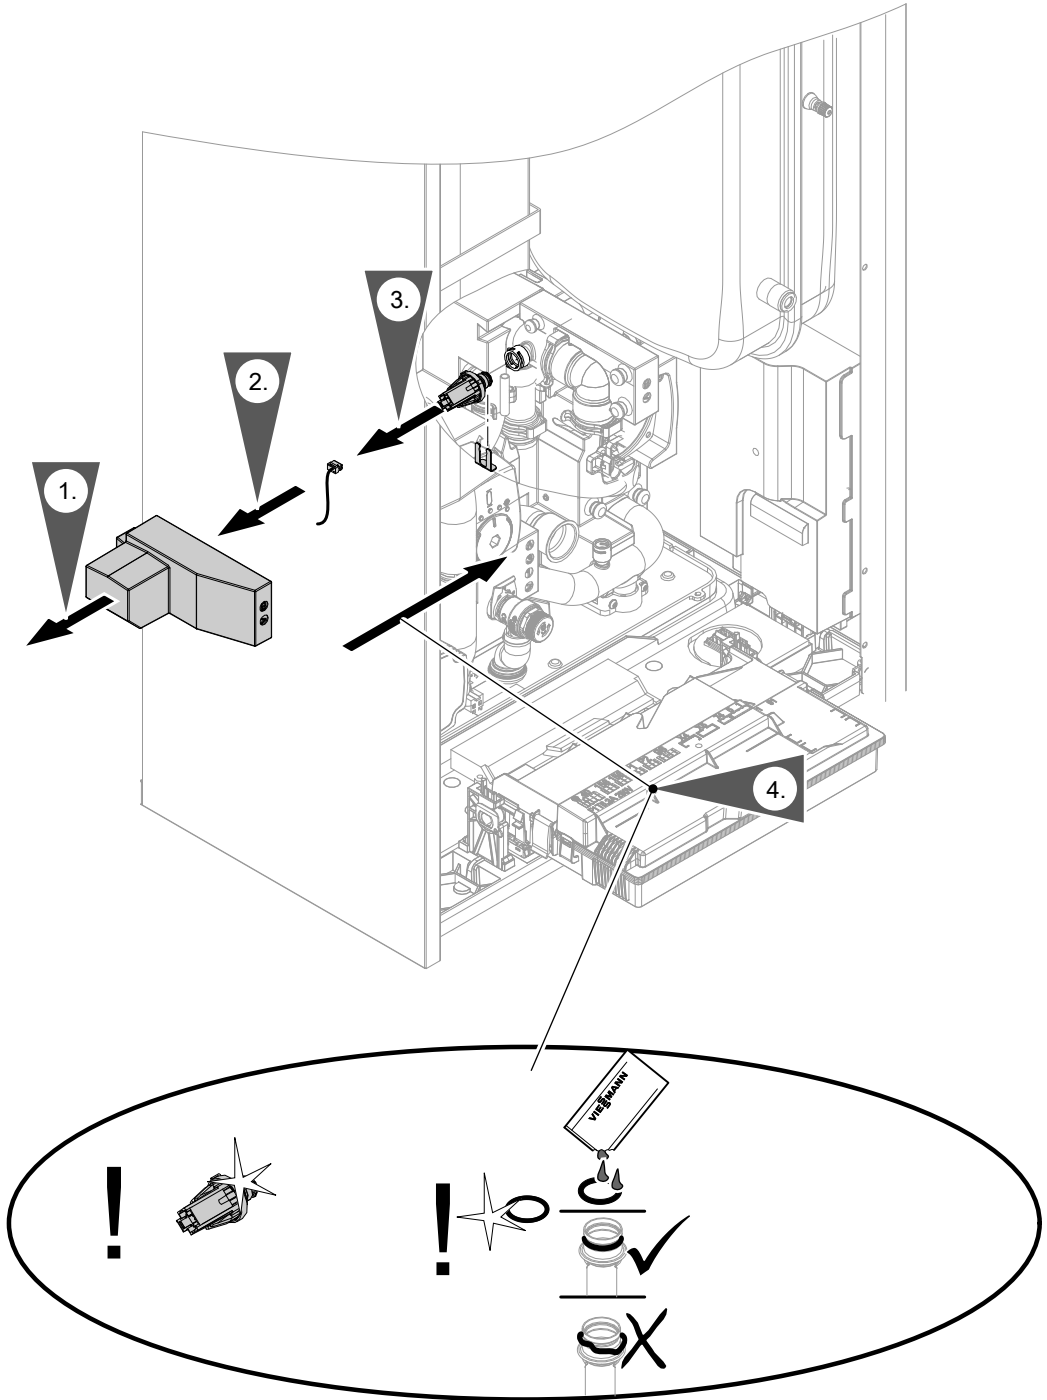

Fig. 94
- Pressure sensor: See Fig. 94.